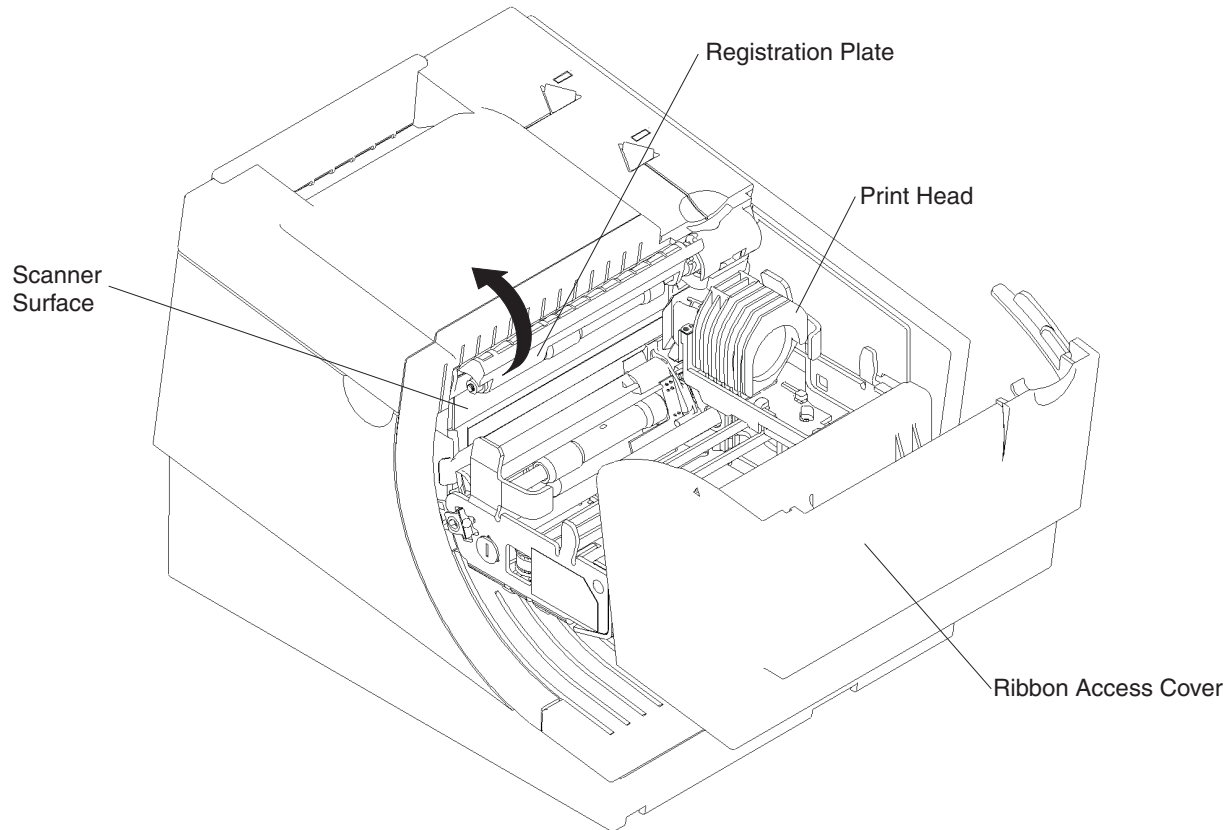

Figure 34. Scanner and print head location (Model T18, T19, TG8, TG9)
1. Open the ribbon cover. See Figure 34.
3. Rotate the scanner registration plate 180° up to expose the glass scanner surface. See Figure 34.